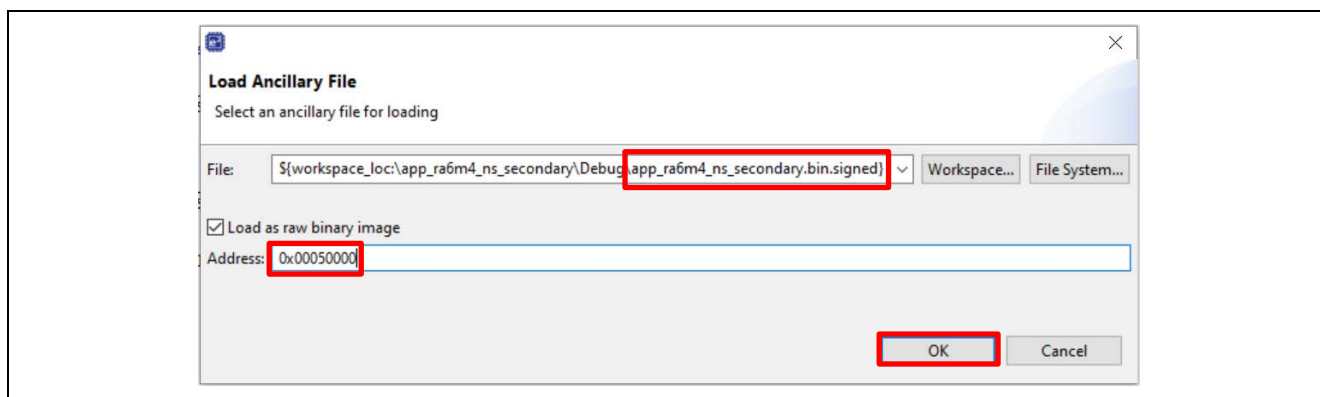

Figure 20. Load the Secondary Non-Secure Application Image for Overwrite Update Mode
3. Load the non-secure new application image to the Secondary slot region using the Ancillary loading capability  from the top of the e² studio toolbar in a similar way as Figure 20 except use address 0x58000.